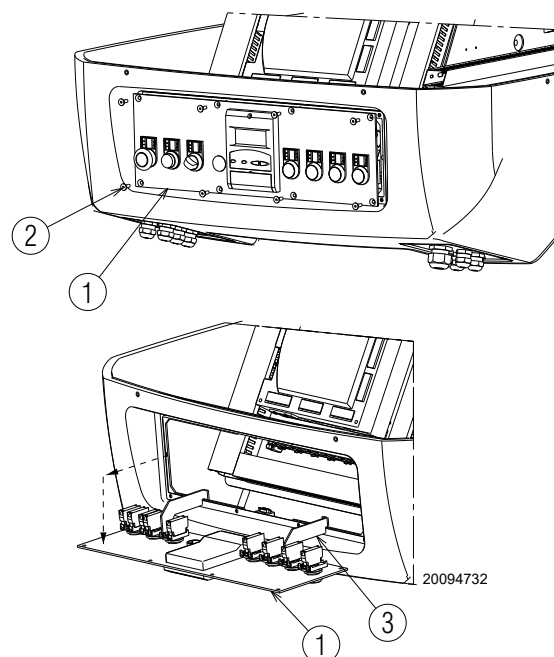

Fig. 36
- extract the control panel 1) and turn it 90°, hooking it with the brackets 3) in the profile of the electrical panel as shown in Fig. 36;